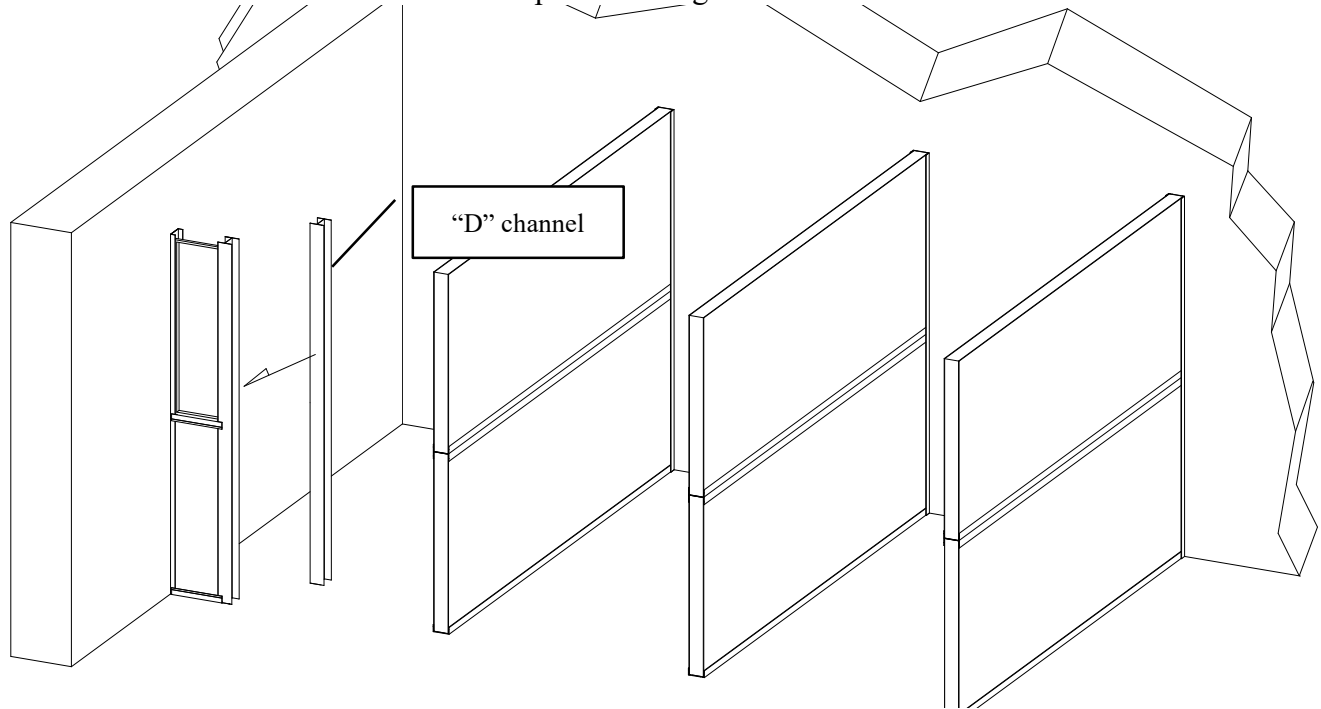

Figure 24
8. Place the first vertical “D” channel in place. See figure 24.